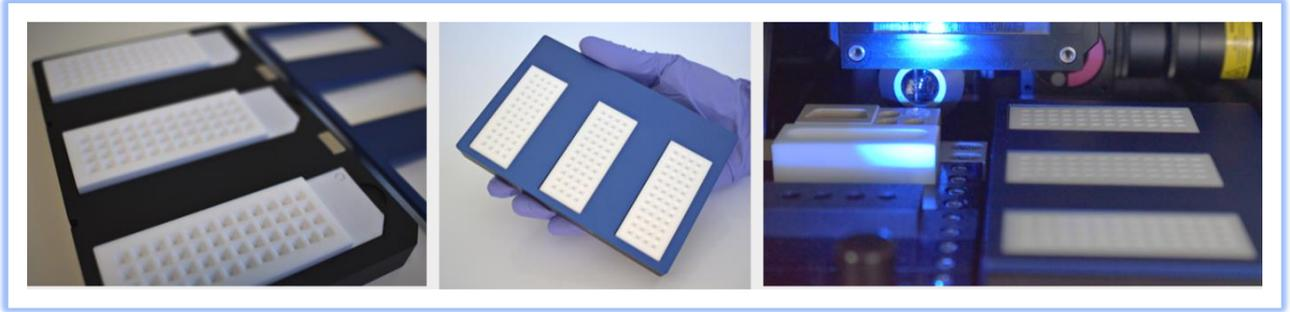
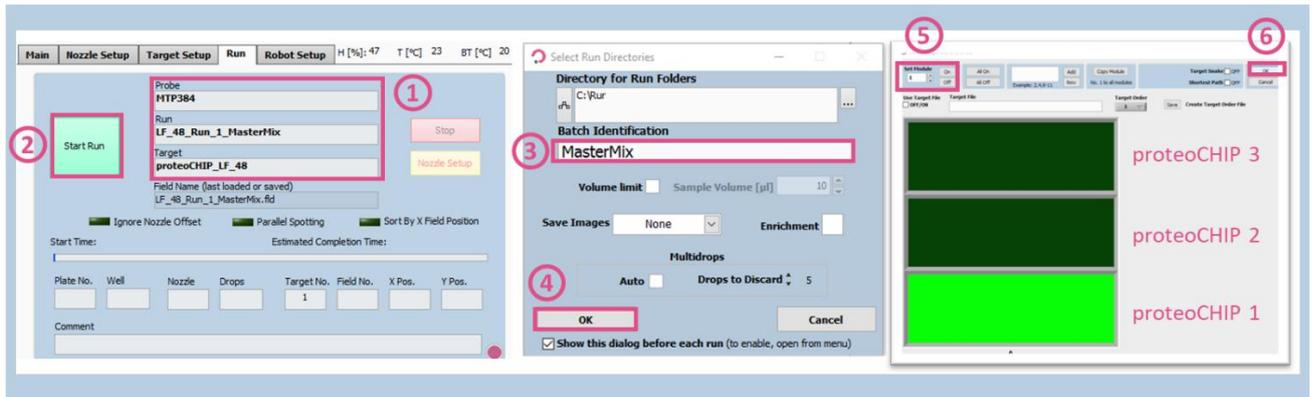

Figure 9. proteoCHIP LF inside the cellenONE holder
Figure 13. Starting the MasterMix dispensing run
- Place the proteoCHIP(s)_LF_48 inside the cellenONE holder (ref. C-PLF-48-CHB) (Figure 9).
Once the proteoCHiPs are loaded in the cellenONE as seen in Figure 9, check that you selected the right probe, run and target in the run window (Figure 13(1)). Start the run (Figure 13(2)), name the experiment (Figure 13(3)) and click OK (Figure 13(4)). Select the number of proteoCHiPs that you want to dispense (Figure 13(5)) and click “OK” (Figure 13(6)).